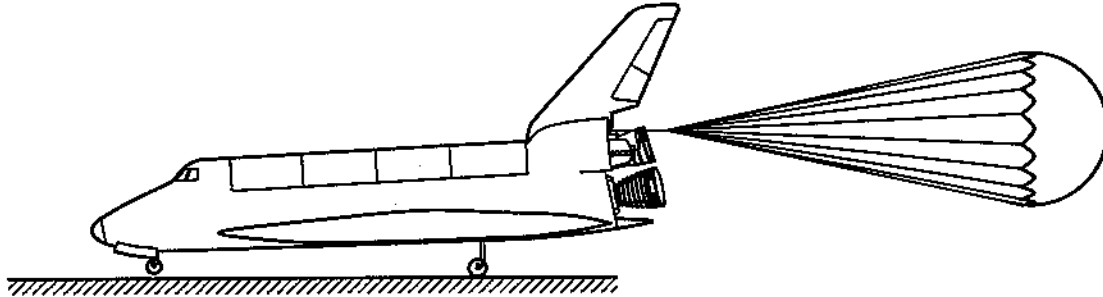

Figure 3: Parachute braking of a large delta-wing glider
- (a) Bodies immersed in a flow are usually classified as either streamlined or bluff bodies. How should you classify the large delta-wing glider shown schematically in Figure 3 and why?